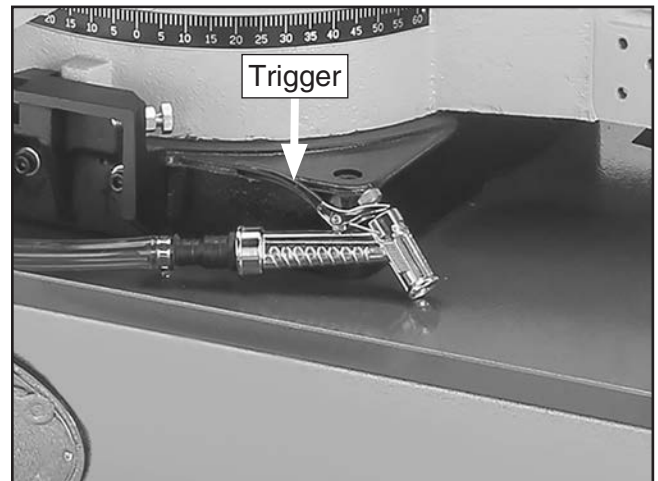

Figure 61. Location of spray gun trigger.
3. Turn coolant pump **ON**. Coolant will now spray when trigger is pressed (see **Figure 61**).